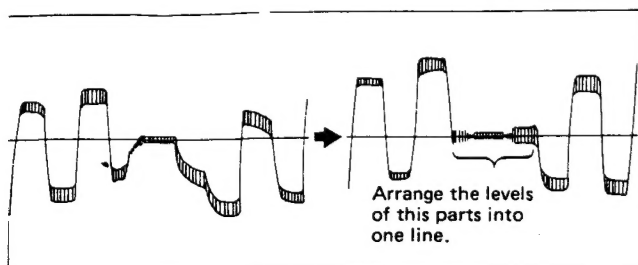

Fig. 5-17
- Connect probe of oscilloscope to TP-65 and adjust T306 for the waveform shown in Fig. 5-17.